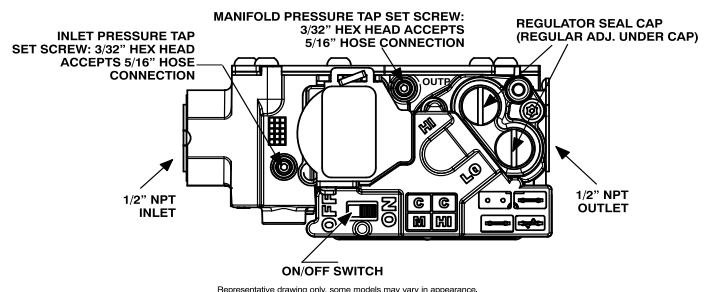

Fig. 64 – Gas Valve with Tower Pressure Ports
1. Adjust manifold pressure to obtain low fire input rate. See Fig. 64.
- Remove regulator adjustment cap from low heat gas valve pressure regulator and turn low-heat adjusting screw (3/16 or smaller flat-tipped screwdriver) counterclockwise (out) to decrease input rate or clockwise (in) to increase input rate. See Fig. 64.
- Adjust manifold pressure to obtain high fire input rate See Fig. 64.
- Remove regulator adjustment cap from high-heat gas valve pressure regulator and turn high heat adjusting screw (3/16-in. or smaller flat-tipped screwdriver) counterclockwise (out) to decrease input rate or clockwise (in) to increase input rate. See Fig. 64.